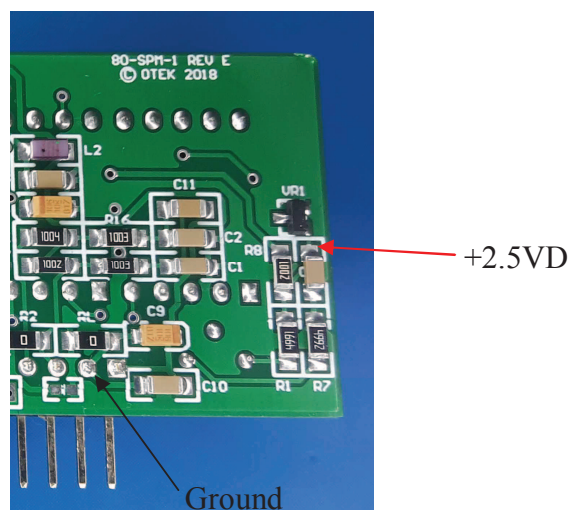

Figure 6: VR1 Test Points
- 4.2.4 Check the voltage reference VR1 to confirm it is operating at 2.5 DC Volts. The test points are shown below in **Figure 6**.